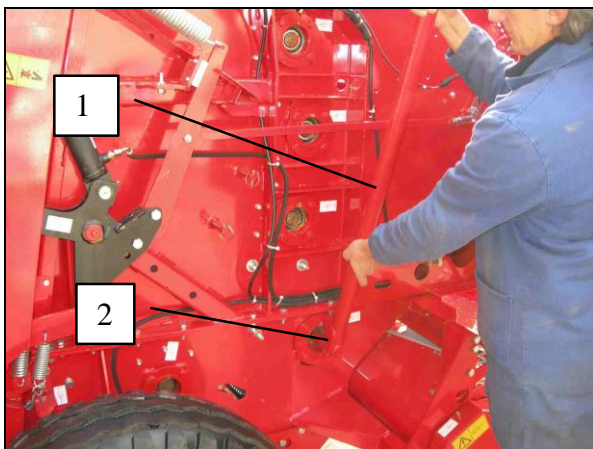

Fig. 23- lever for flooding
3. Open the side carter of chains protection, insert the key (1) fig.23 (in equipment), in the rotor shaft and turn it in anticlockwise